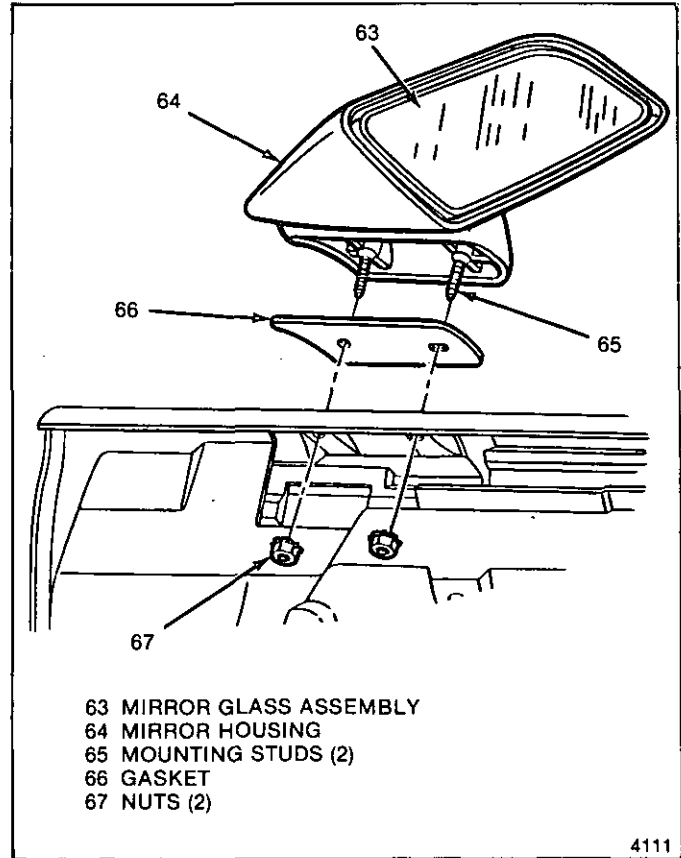
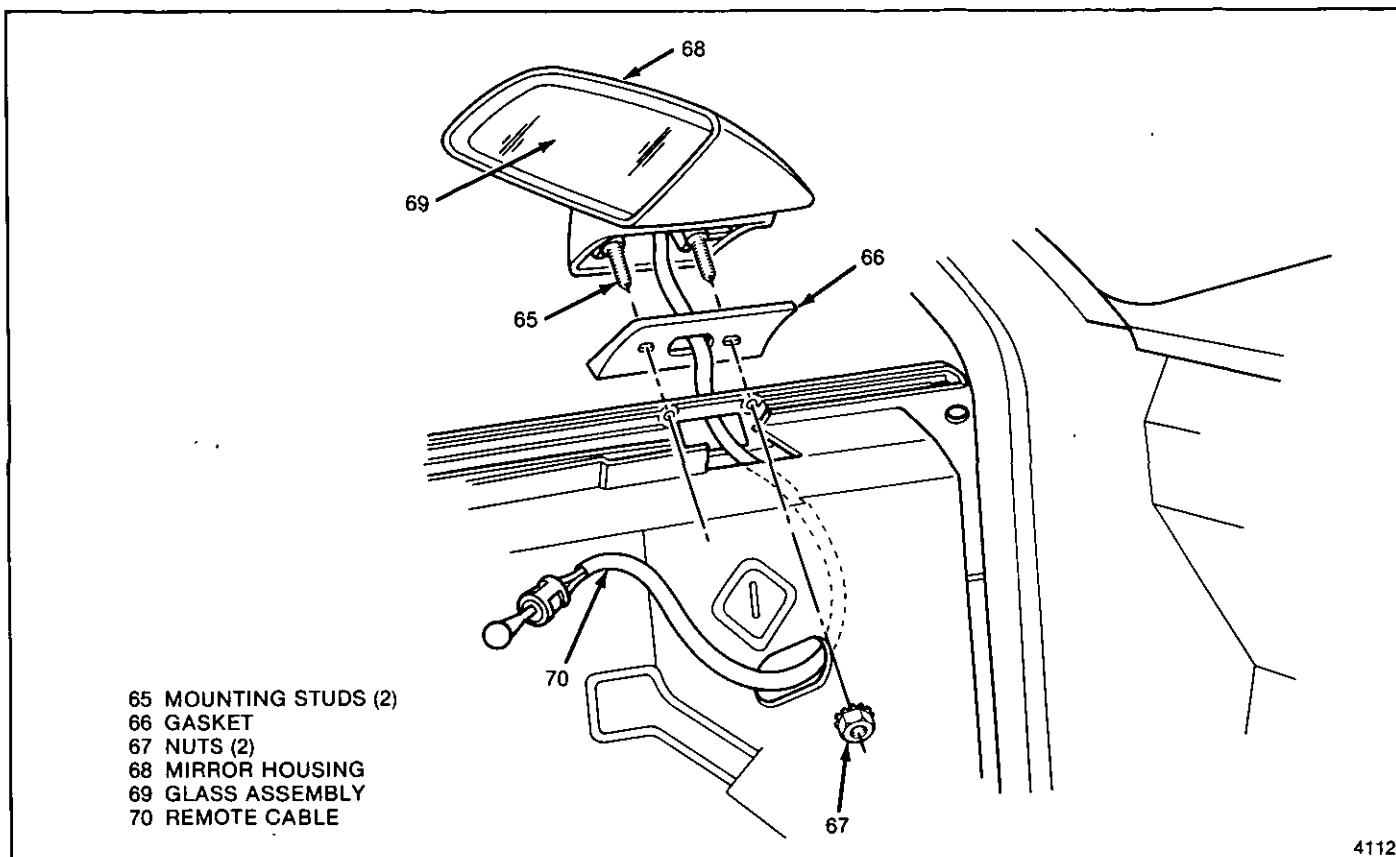

Fig. 5-19-Outside Mirror - Manual
Fig. 5-20-Remote Control Mirror - Manual
Remove or Disconnect (Figure 5-19)
**→← Install or Connect (Figure 5-19)**
1. Mirror (64)
2. Mirror attaching nuts (67)
**↔ Remove or Disconnect (Figure 5-19)**
- Put mirror glass (63) in full-down position for access
- Put mirror glass (63) in full-up position for access
3. Mirror glass assembly (63)
1. Mirror glass assembly (63)
**↔ Remove or Disconnect (Figure 5-20)**
4. Mirror attaching nuts (67)
5. Mirror (68)
**→← Install or Connect (Figure 5-20)**
2. Mirror (68)
3. Mirror attaching nuts (67)
1. Mirror (68)
- Put mirror glass (69) in full-down position for access
- Put mirror glass (69) in full-up position for access
4. Mirror glass assembly (69)